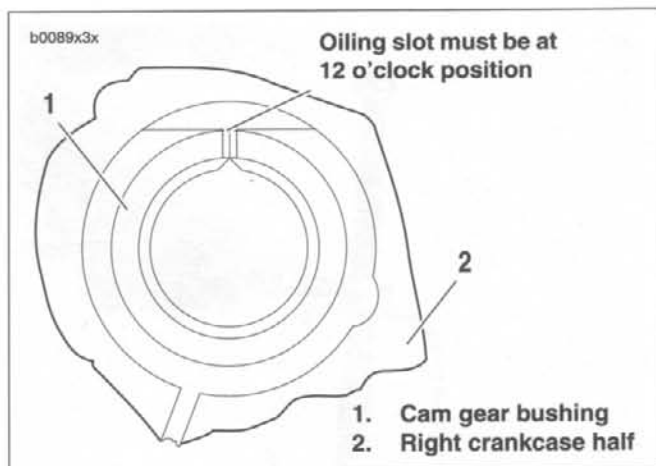

Figure 3-85. Cam Gear Bushing Installed in Crankcase
- See Figure 3-85. Each cam gear bushing (1), to be installed in right crankcase half (2), must be positioned in crankcase bore with its oiling slot at exact top of bore (12 o'clock position).
1. Separate two halves of crankcase, if not already accomplished. Place right crankcase half on flat surface with gearcase side upward. Bushing to be reamed must be oriented as shown in Figure 3-85.